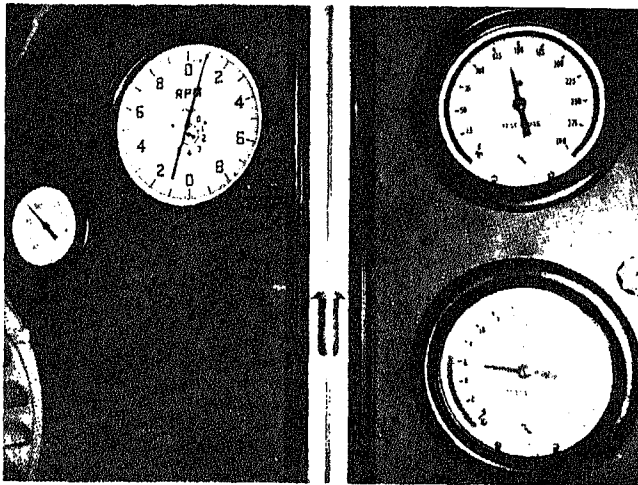

Fig. 511-20. Check governor cut off speed
1. With throttle in full fuel position, increase pump speed until point at which fuel pressure just begins to decrease (peak point). This should occur at speed indicated by "Governor Cut-Off RPM". For example: 2120/2140 rpm on NH-220 pump. Check speed with ST-774 by tripping twice as the fuel pump tachometer drive is turning at 1/2 engine speed. Fig. 511-20.